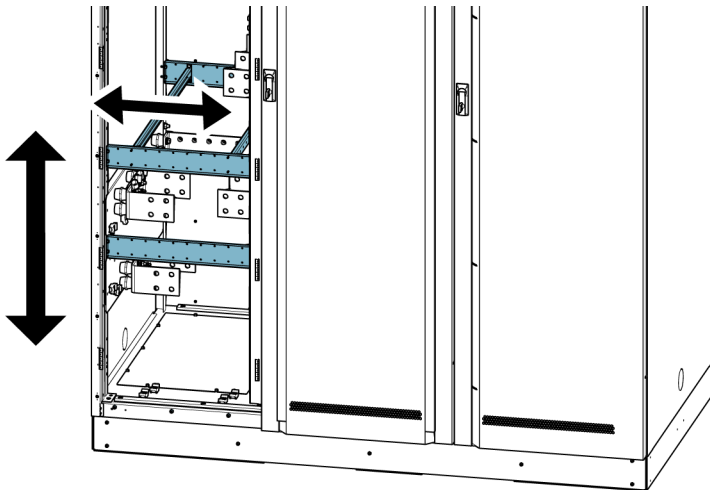

Figure 19. Cable support beams
7. Route and connect power wiring. Use movable cable support beams if needed. See Figure 19.